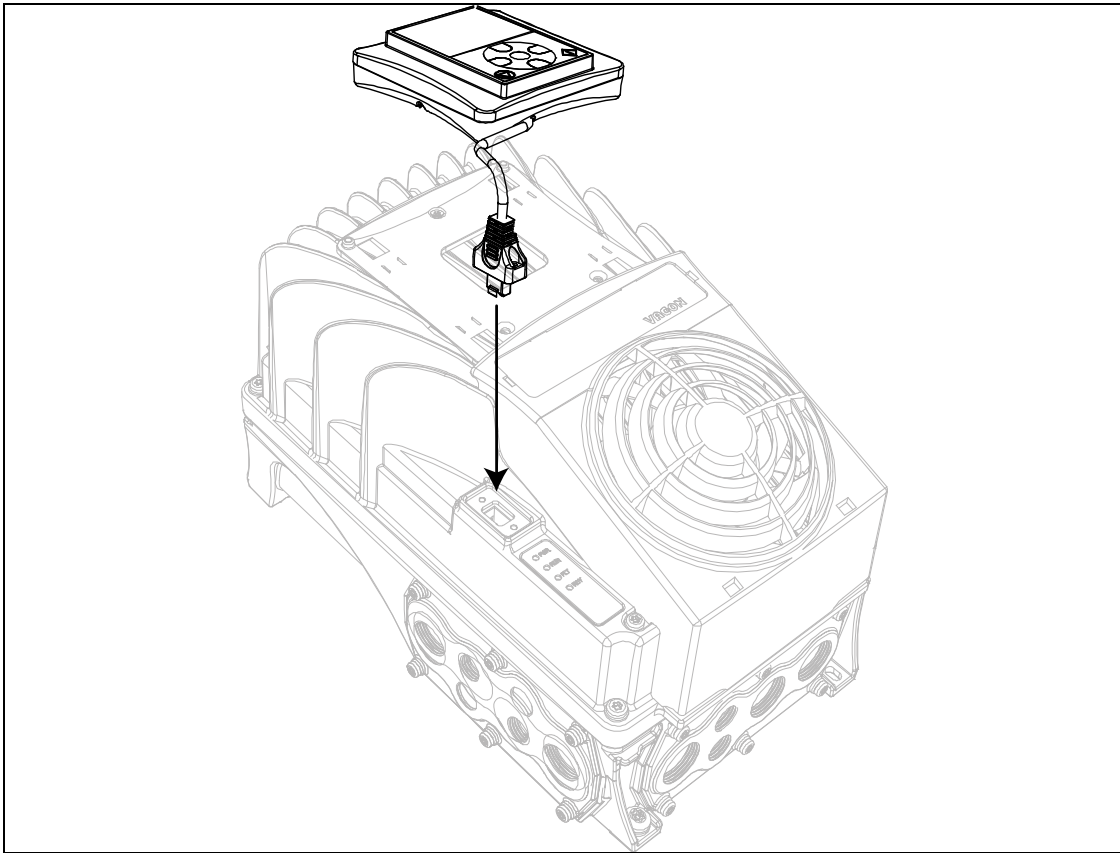

Figure 55. Mounting of the keypad.
- Connect the keypad to the drive and plug the cable on the HMI connector as shown in the Figure 55 and in the Figure 56.